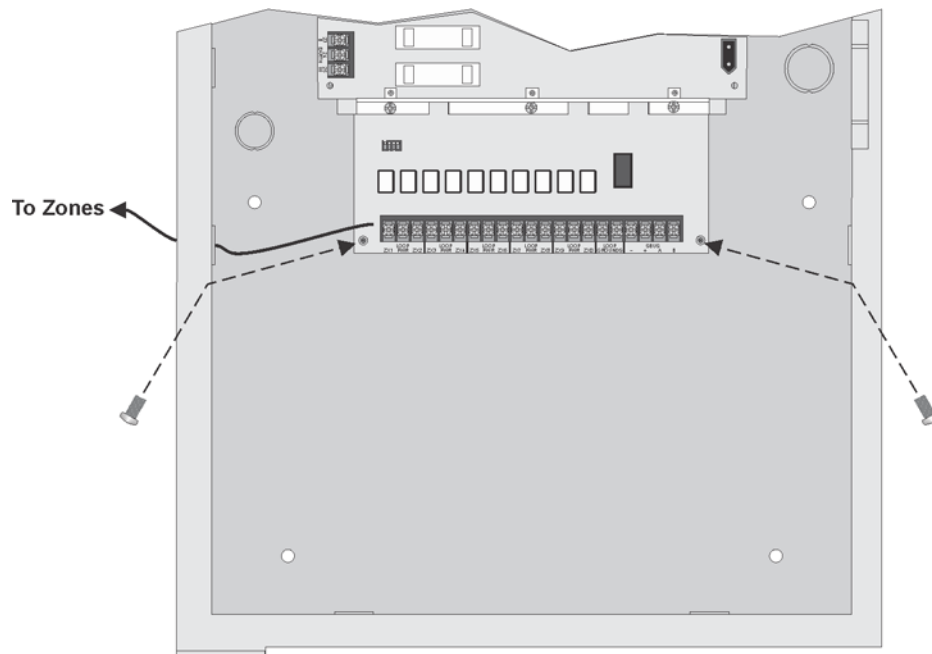

Figure 3-22 Installing the SK-5217 Into the SK-5208 Cabinet
2. Mount the SK-5217 onto the standoffs and bracket located in the cabinet. See Figure 3-22.